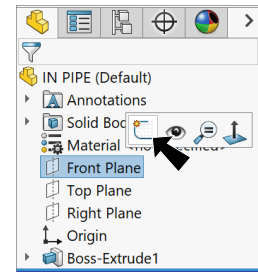

Fig. 5
Step 1. Click **Front Plane**  in the Feature Manager and click **Sketch** on the context toolbar, **Fig. 5**.